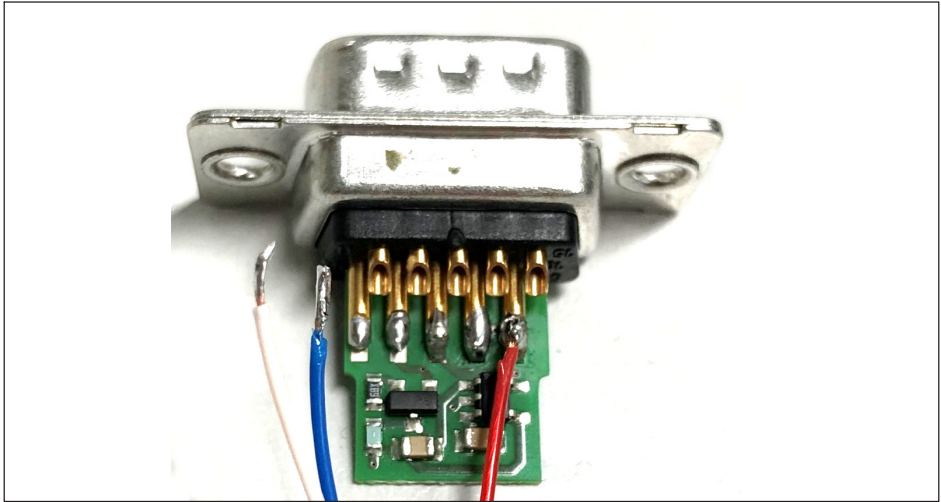

Fig. 2.6 View of the TEDS module in the plug from below; pin 10 soldered on.
- ▶ Solder connection 4 of the transducer (red) to pin 10 (Fig. 2.6). For a half bridge this connection is omitted; in this case continue with the next step.